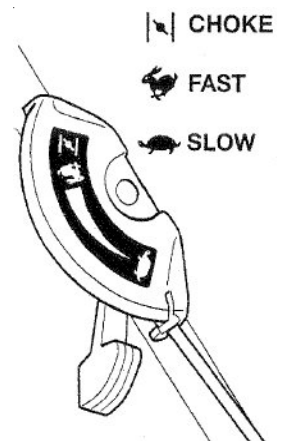

Figure 4
- Move the throttle control to the “Choke” position (Figure 4).